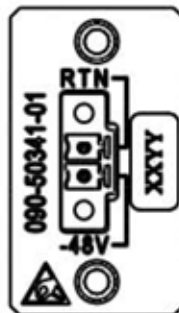

Figure 3-12. TimeProvider 5000 Power Connector
5. Insert the connectors into the power connections in the chassis. See Figure 3-12. Tighten screws in the connector